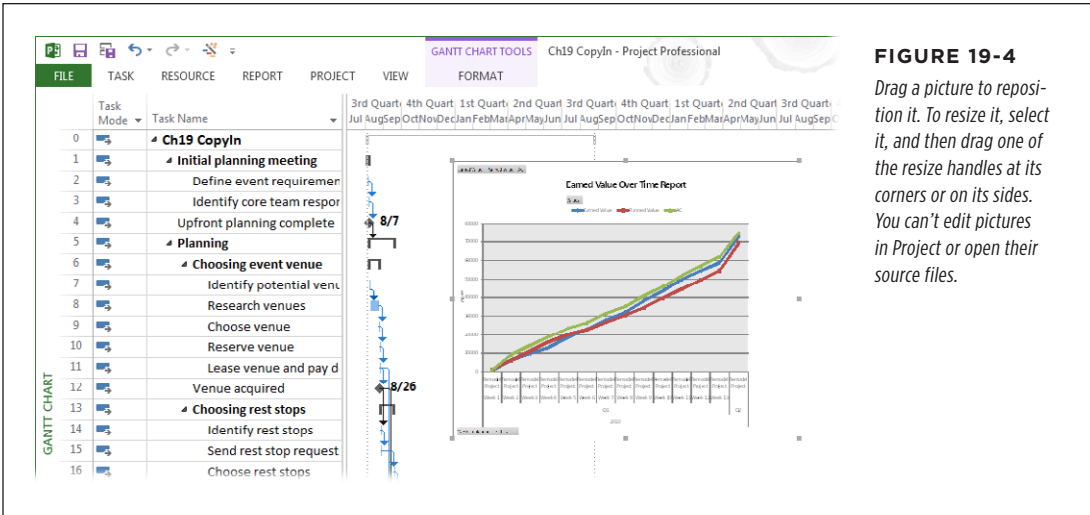

FIGURE 19-4
3. Press Ctrl+V, and Project pastes the graphic at the selected location, as shown in Figure 19-4.